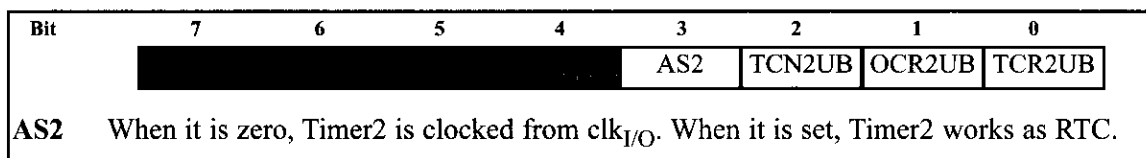

Figure 9-12. ASSR (Asynchronous Status Register)
See Figure 9-12. Timer2 is an 8-bit timer. Therefore it works the same way as Timer0. But there are two differences between Timer0 and Timer2:
1. Timer2 can be used as a real time counter. To do so, we should connect a crystal of 32.768 kHz to the TOSC1 and TOSC2 pins of AVR and set the AS2 bit. See Figure 9-12. For more information about this feature, see the AVR datasheet.